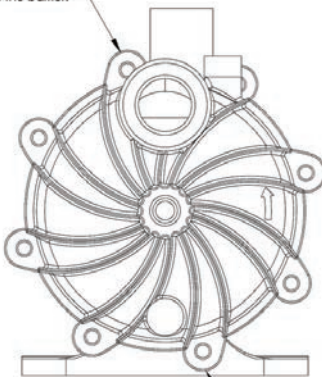

Figure 14
4. Remove the housing by carefully inserting two flat head screwdrivers at the locations shown in figure 14. Slide the screwdrivers in at the bolt holes between the metal clamp ring (item 12B) and the housing until they stop. Applying equal pressure, gently pry both screwdrivers in an upward motion away from the work bench (to avoid damaging sealing surface on the housing). See figure 14A. Housing is tight due to o-ring seal on the internal “gooseneck.” NOTE: Do not twist the screwdrivers or damage may occur to the housing. Lift the housing straight up to remove.